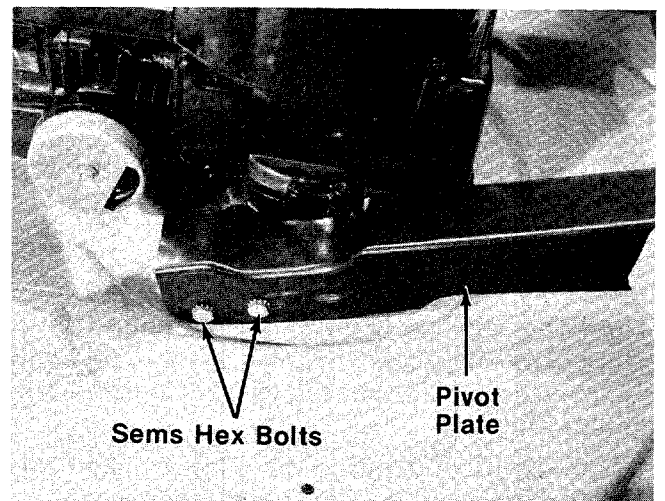

FIGURE 15.
1. Loosen (do not remove) two sems hex bolts. See figure 15.